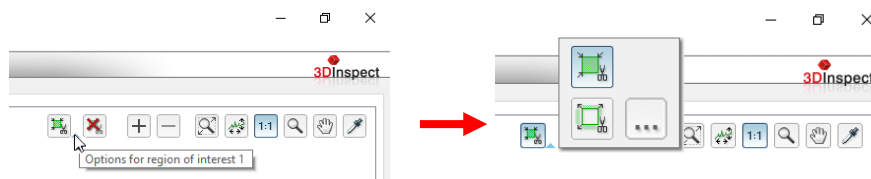

Fig. 3.66: "Region of interest options" context menu (Use points inside/outside the ROI)
- Open the "Region of interest options" context menu. Click on the corresponding icon to the right of the "Set region of interest" button (see Fig. 3.66).
- Select the desired mode from the context menu (see Fig. 3.66).
Open the context menu for the desired ROI and click on the "..." button (see above, Fig. 3.66) or press the right mouse button in the profile view.